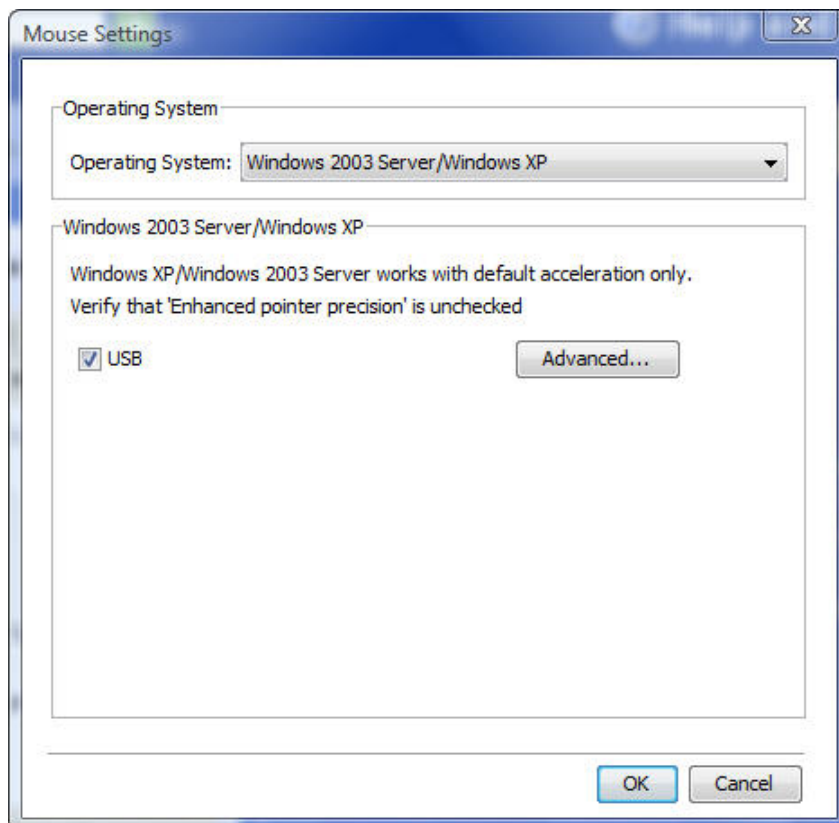

Figure 42 – Relative Mouse Settings
1. In the **Mouse Settings box** (see Figure 42), click **Advanced**.